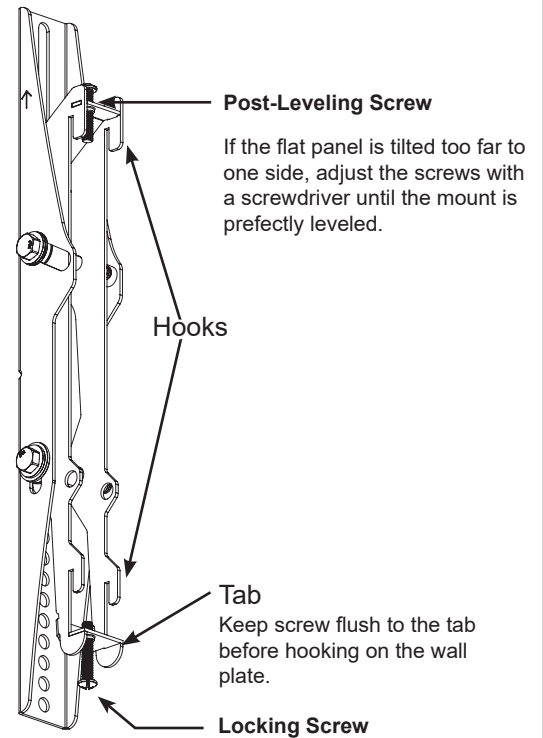

Figure 2
If the screw you selected is longer than the 1/8" allowance mark on the small straw or toothpick, as shown in Figure 2 and Figure 3, do not use this screw. The screw length must not bypass the mark.
1. Keep the two bottom screws clear (shown in figure 2) before mounting to the wall plate. Hook the mounting brackets then level.